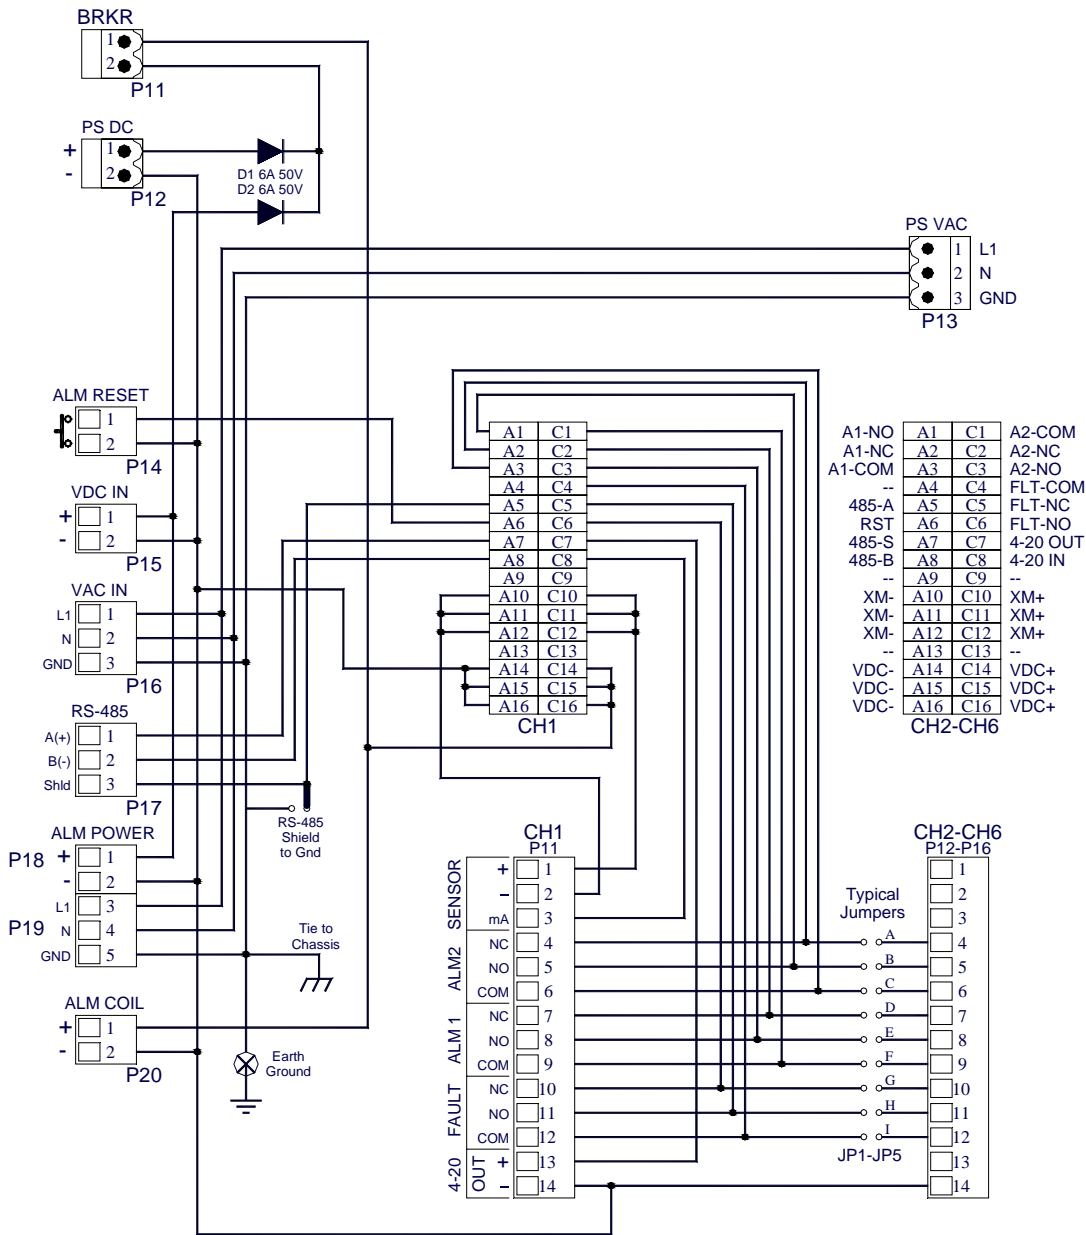

Figure 3 Motherboard Wiring Diagram
A remote mounted normally open momentary switch may be used to reset the alarms of all Model 10 controllers. “ALM RESET” (P14-1 and P14-2) provides a set of terminals to connect the switch across every Model 10 Controller (Figure 3). The reset function is effective when the Model 10’s respective alarms have been programmed in the latching position and alarm conditions have passed. Each Model 10 controller also has its own discrete alarm reset switch, discussed further in the Model 10 Controller Manual.
2. Refer to installation and wiring detail of remote mount sensor assemblies as detailed in the Sensor Instruction Manual. Terminate field wiring from sensors on the 610-N4X motherboard. Terminals are labeled “Sensor” (mA, + and -, Figure 3).
- If applicable, terminate the discrete 4-20mA outputs to external device(s). Terminals are labeled “4-20 Out” (+ and -, Figure 3).
- If applicable, terminate the RS-485 serial output to external device(s). Terminals are labeled “RS-485” (A+, B-, and Shield, Figure 3). If applicable, terminate RS-485 Shield to Earth Ground via the jumper tab located to the left of the RS-485 terminals. Place the jumper on the bottom 2 contacts to tie RS-485 shield to Earth Ground or place the jumper tab on the top two terminals for storage.
- If applicable, connect a 24VDC source or standby battery to the terminal strip labeled “VDC IN” (P15+ and –) on the Motherboard (Figure 3).
- Connect 110/220VAC input wiring to the terminals labeled “VAC IN”; P16-1 (L), P16-2 (N), and P16-GND Ground (Figure 3). The Power Supply will accept input voltages from 100 to 240VAC, 50/60Hz.